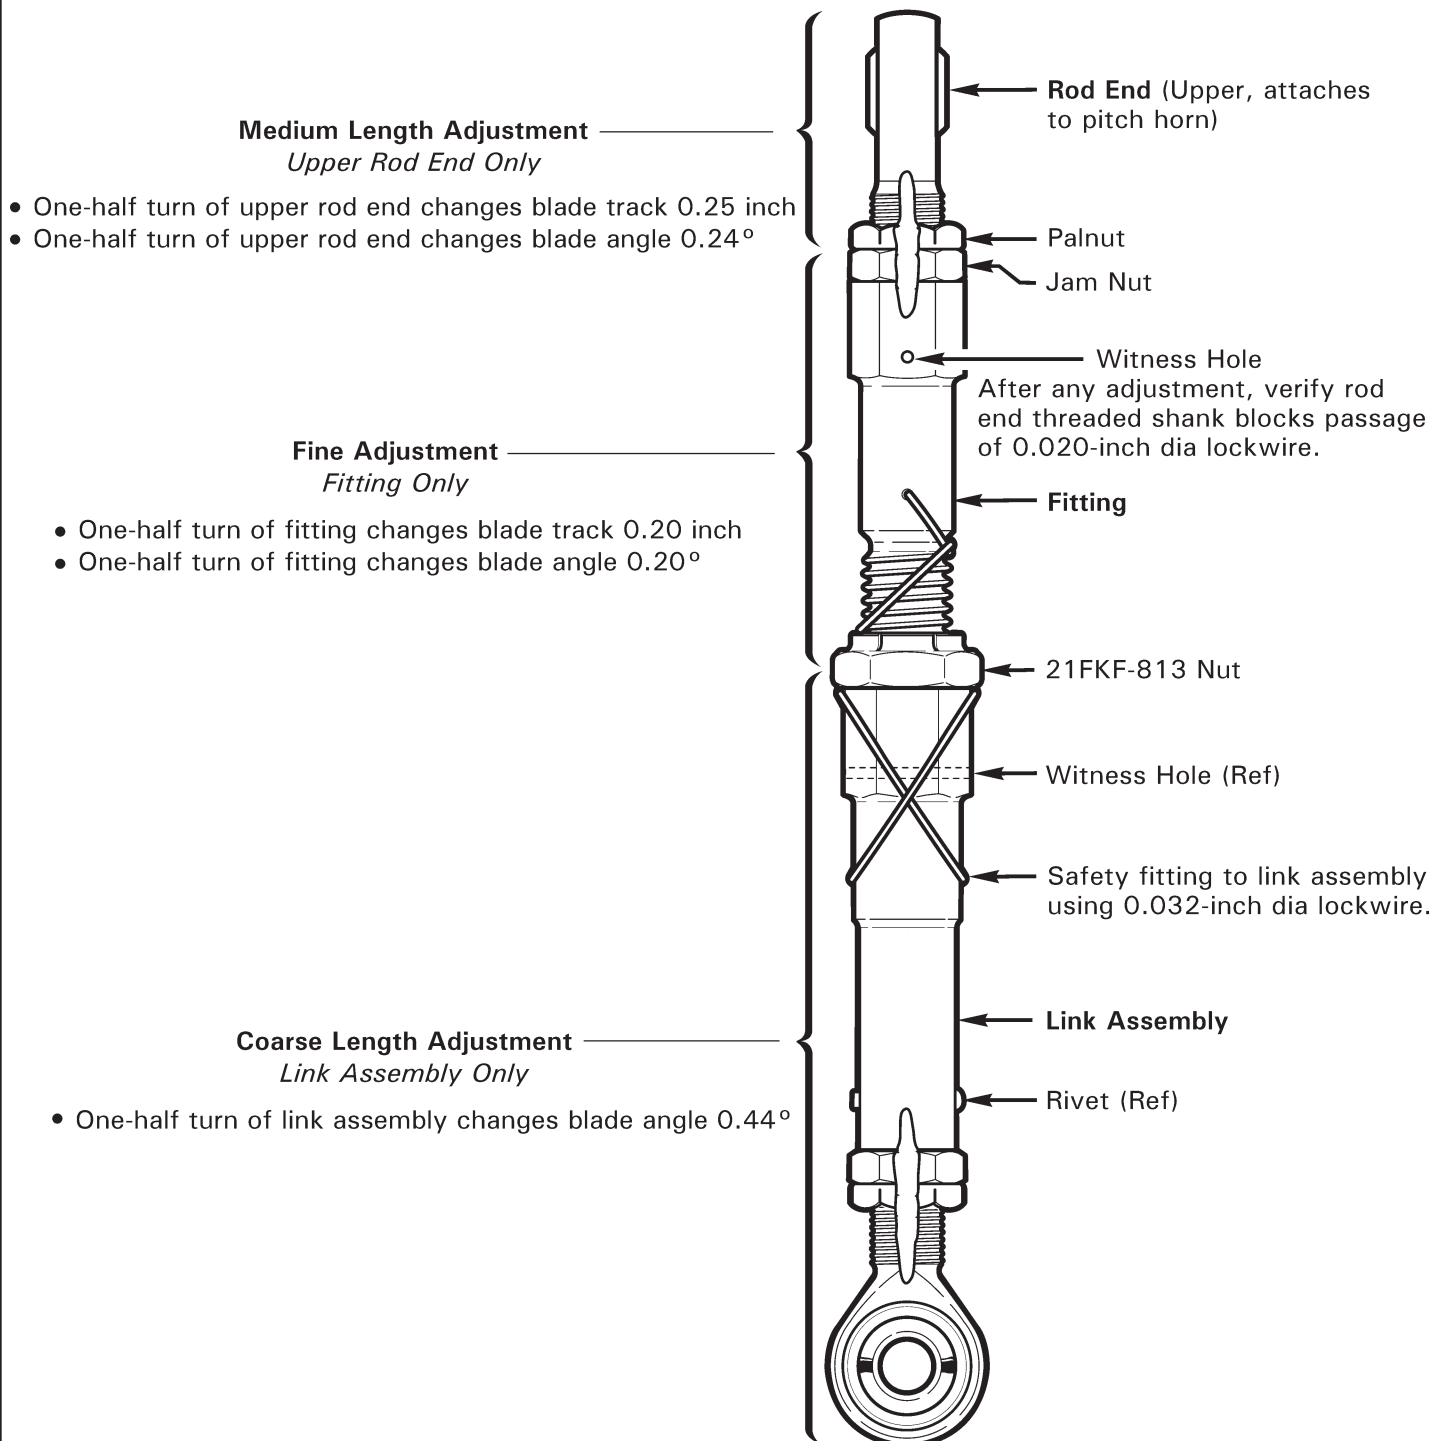

FIGURE 10-12B C258-1 MAIN ROTOR PITCH LINK
- i. Refer to Figure 10-12B. Cut and discard pitch link assembly safety wire. Using backup wrench on link assembly, loosen 21FKF-813 nut; using backup wrench on fitting, loosen upper rod end palnut and jam nut.
- i. Refer to Figure 10-12B. Cut and discard pitch link assembly safety wire. Using backup wrench on link assembly, loosen 21FKF-813 nut. Remove hardware securing lower rod end to swashplate.